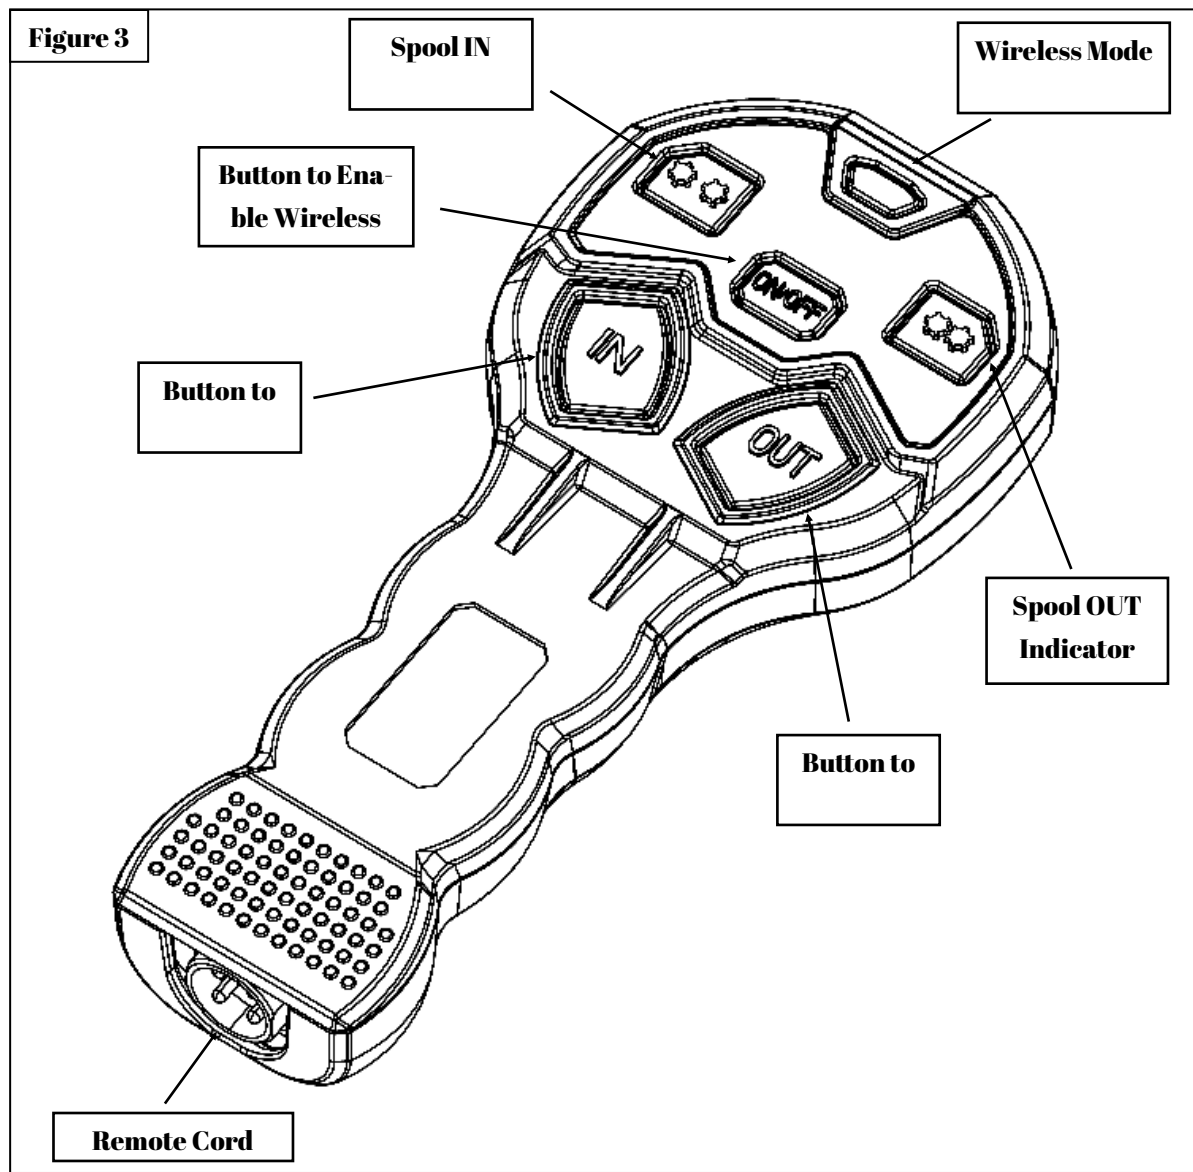

Figure 4
6. **Utilizing the remote (wireless)** - Press and hold the ON/OFF button in the center of the remote until the LED above it flashes and turns solid (if the light does not turn solid check the internal battery). To spool in press and hold the IN button. The winch will spool in until the button has been released or the Rope Fully Retracted Switch has been tripped. To spool out press and hold the OUT button. See Figure 3. **Important - Release the OUT button immediately if the red portion of the winch rope becomes visible. See Figure 4.** The red portion of the winch rope signifies that very little rope remains wrapped on the winch drum. Spooling out past this point creates a hazardous condition.